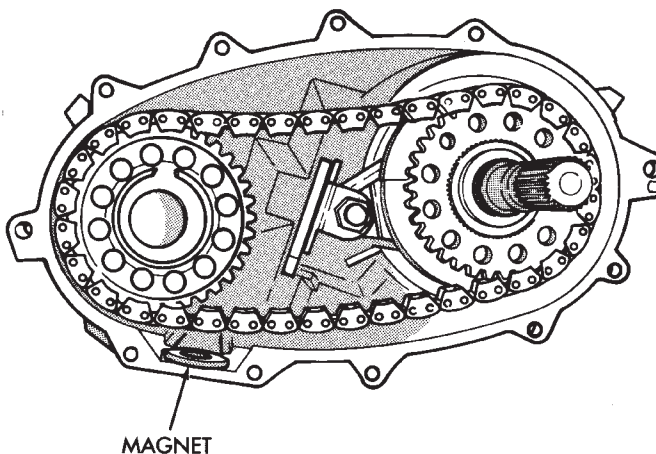

Fig. 70 Installing Case Magnet
(1) Install magnet in front case pocket (Fig. 70).
(2) Assemble oil pickup screen, connecting hose, and tube.